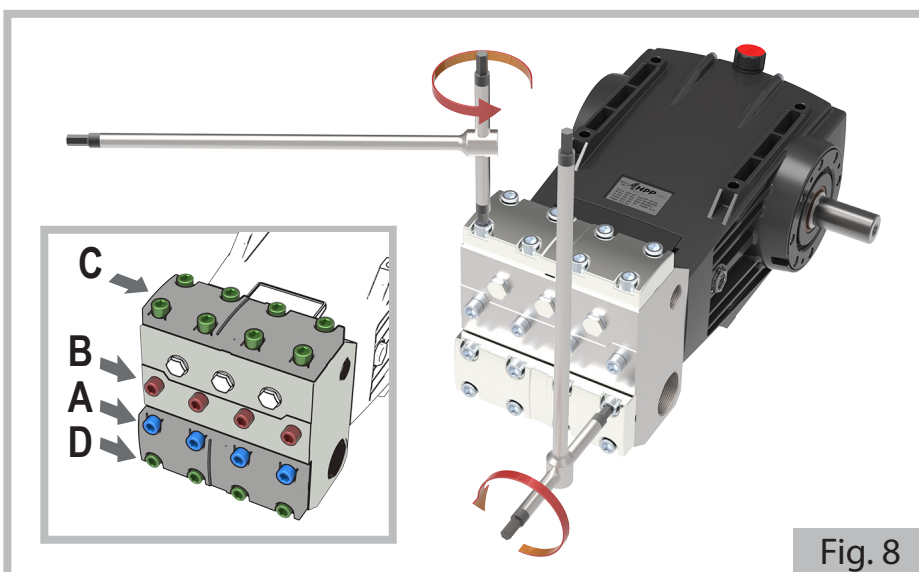

Fig. 8
- a) Remove the two valve caps (1) from the head (3) by loosening the screws **A-C-D** (see detail in figure 8) with a 12 mm Allen key, as follows:
- remove the two valve caps (1)